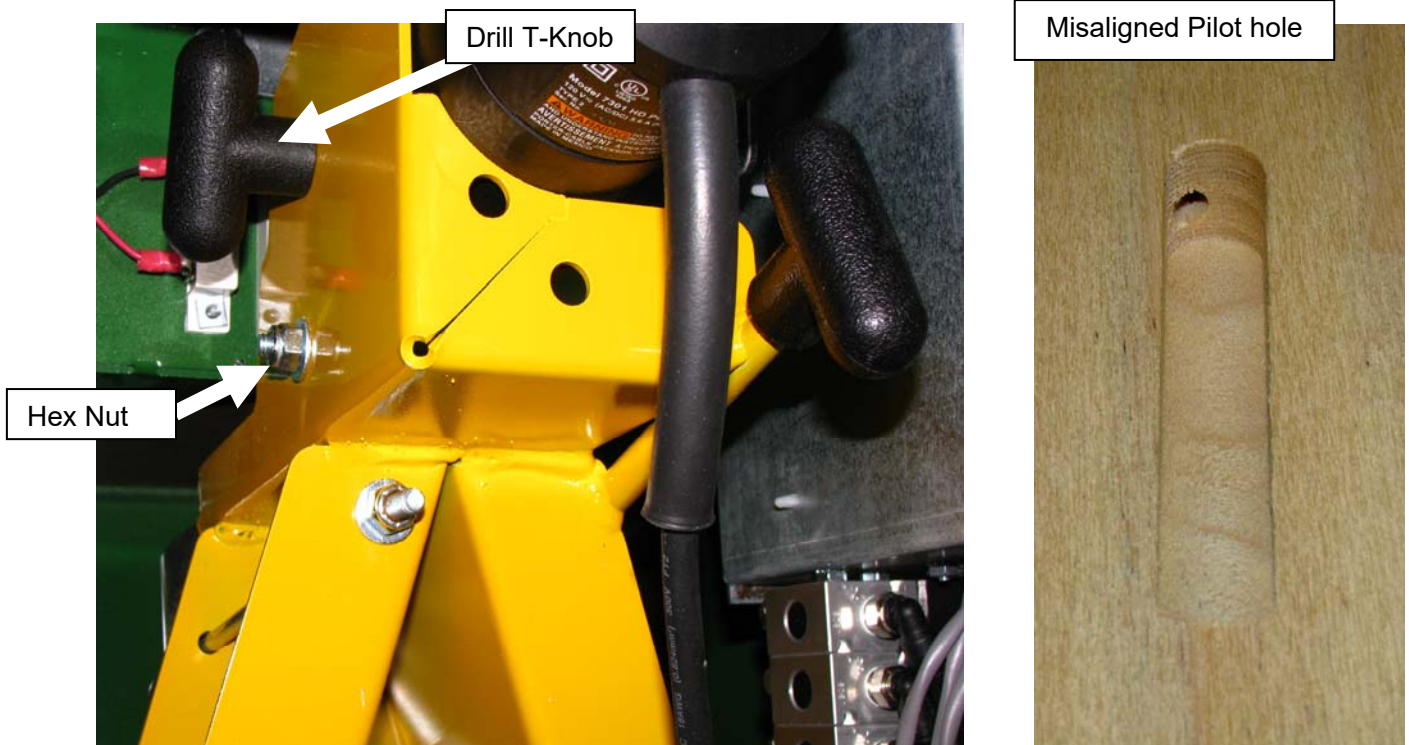

Fig 22
1. From the rear door, locate the hex nut immediately below the Drill T-Knob on the upper left side of the Motor Carriage. **See Fig 22.**